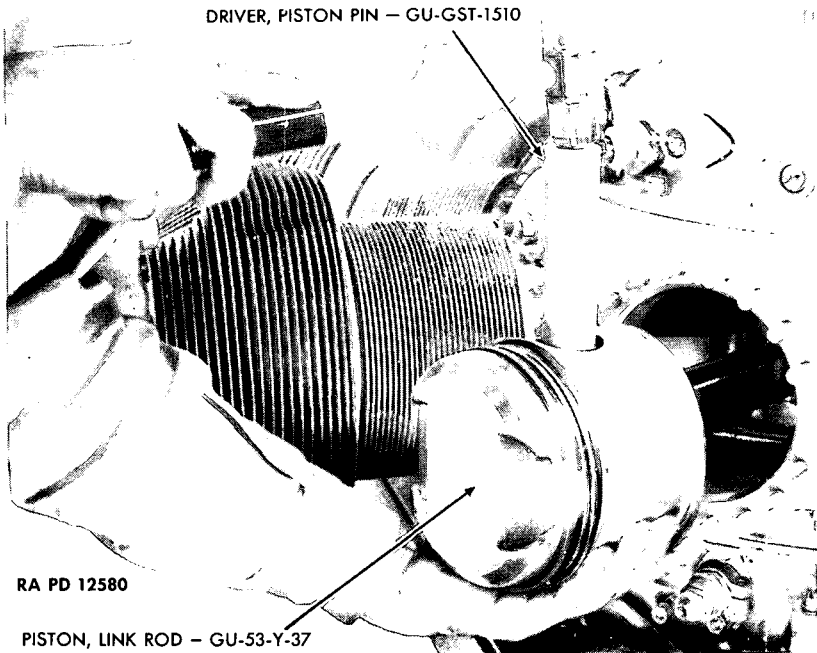

Figure 20—Removing the Piston
(2) Using the $\frac{5}{8}$ -inch offset open-end wrench and the cylinder hold-down nut wrench GU-GST-1547 with a $\frac{1}{2}$ -inch drive, remove the pal-nuts, nuts and washers from the studs that encircle the cylinder barrel. Then pull the cylinder barrel back off the studs and remove it from the piston assembly. Repeat the operation on the other cylinders, using the crankshaft turner GU-GST-1502 to turn the engine.
41. REMOVE THE PISTON ASSEMBLIES (fig. 20).